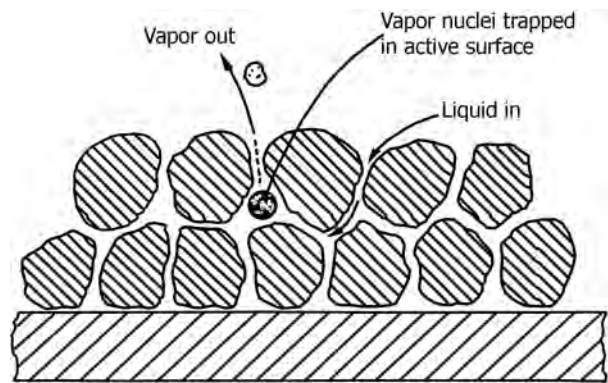

FIGURE 9.9 Linde porous boiling surface.
- Figure 9.9 illustrates Linde surface.